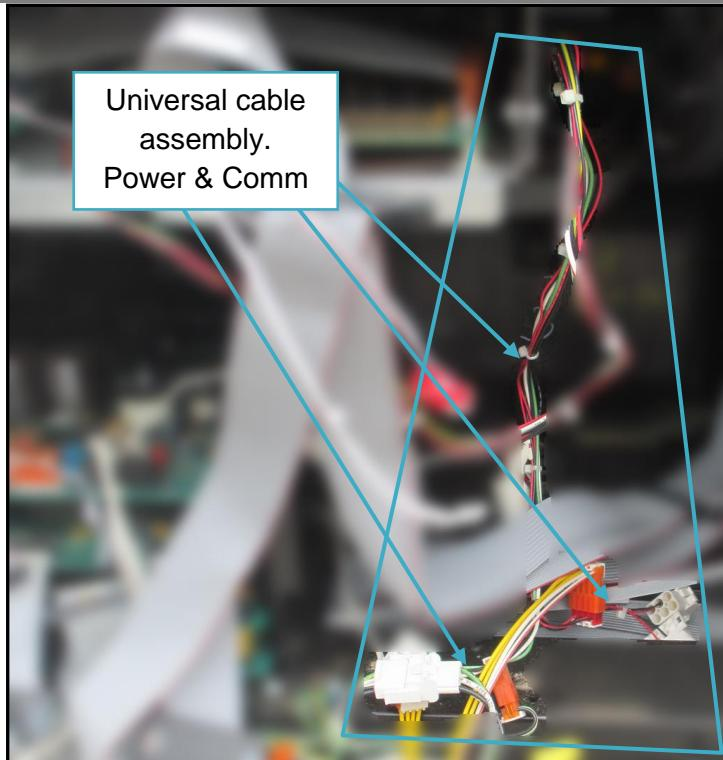

Fig 1.14a – cable assembly on right side of CRIND rack
- 1) Identify the universal comm and power cable assembly located on the right side of the CRIND rack. (Fig 1.14a)